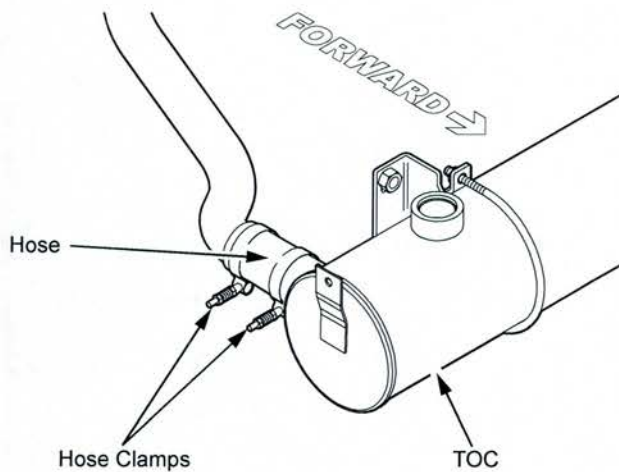

Figure 5
10. Loosen the clamps and remove the coolant hose (see Figure 5).